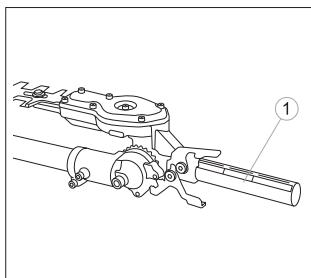

fig. 24
1. With your right hand, grab the handle located directly behind the handle-protection. With your left hand, take the adjusting lever on the cutting unit (fig. 24).